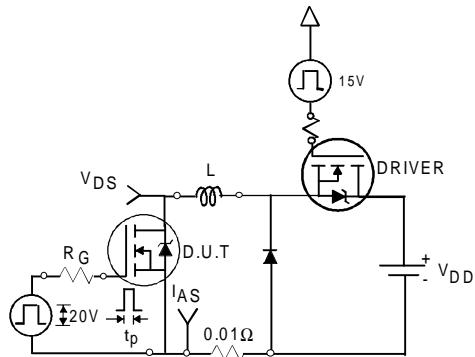

Fig 12a. Unclamped Inductive Test Circuit
- ③ $I_{SD} \leq 78\text{A}$, $di/dt \leq 320\text{A}/\mu\text{s}$, $V_{DD} \leq V_{(\text{BR})\text{DSS}}$, $T_J \leq 175^\circ\text{C}$
- ④ Pulse width $\leq 400\mu\text{s}$; duty cycle $\leq 2\%$.
- ⑤ $C_{\text{oss eff.}}$ is a fixed capacitance that gives the same charging time as C_{oss} while V_{DS} is rising from 0 to 80% V_{DSS} .
- ⑥ Calculated continuous current based on maximum allowable junction temperature. Package limitation current is 75A.
- ⑦ Limited by $T_{J\text{max}}$, see Fig.12a, 12b, 15, 16 for typical repetitive avalanche performance.
- ⑧ Uses IRF1407 data and test conditions.
3. Equation below based on circuit and waveforms shown in Figures 12a, 12b.